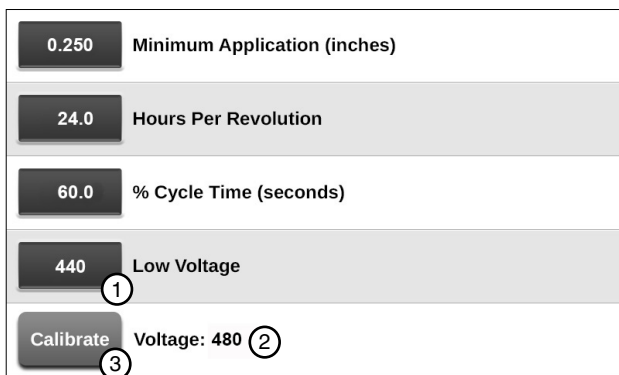

Figure 26-2 1. Low Voltage 2. Voltage 3. Calibrate
1. Push **Menu, Setup, Constants** and **System/Voltage** to display the System/Voltage screen. Refer to Figure 26-2.